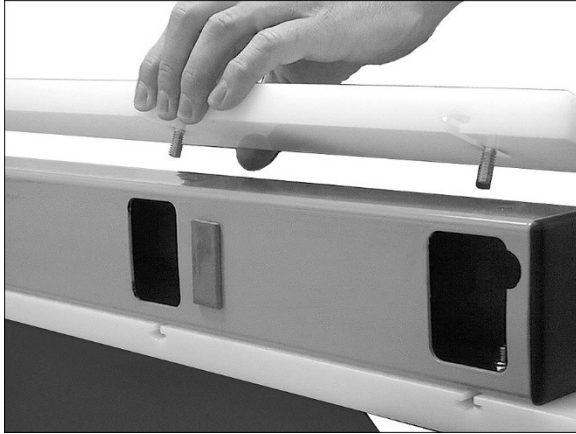

Figure 6-20
3. Turn fence on its side and pull side plate from frame (Figure 6-20).
4. Replacement side plates come with fasteners already attached. With fence still on its side, align new side plate so that the attached bolts line up with the holes on the frame. See Figure 6-20. Mount the new side plate to the frame.